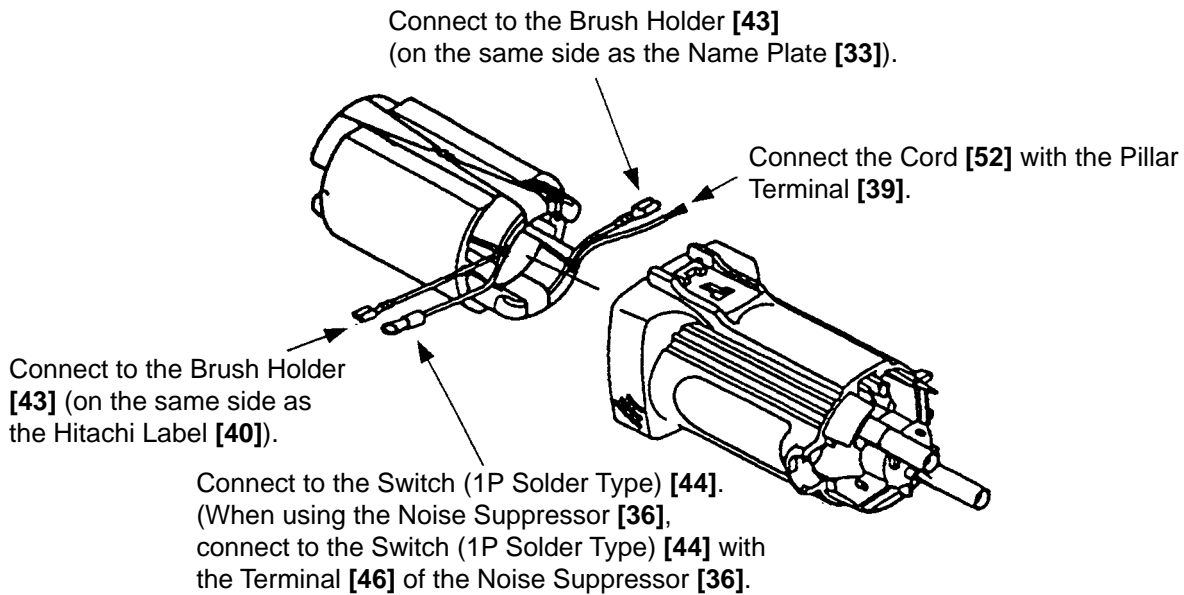

Fig. 8
- (6) When installing the Stator [14] into the Housing Ass'y [32], insert it while taking care of the placement of the internal wires of the Stator [14] as indicated in Fig. 8. Connect the four internal wires of the Stator [14] with the parts indicated in Fig. 8.